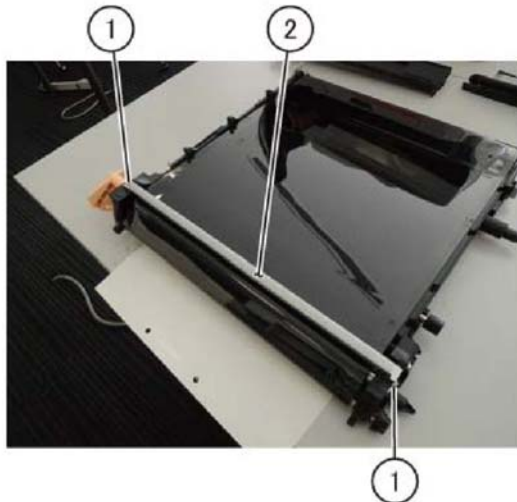

Figure 3 IBT belt unit bottom guide
6. Remove two screws (1) and remove the IBT belt unit bottom guide, Figure 3.